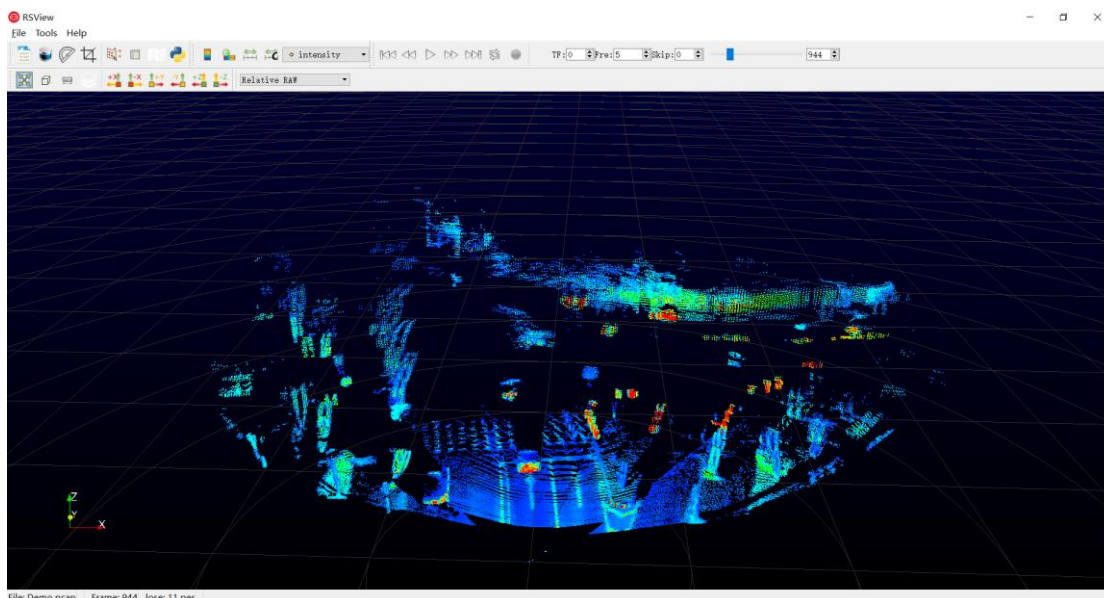

Figure A-4: RS-LiDAR-M1 Sensor Stream display
6. RSView begins displaying the colored point cloud from capturing the sensor data stream from LiDAR (as shown in Fig. A-4). The stream can be paused by pressing the **Play** button, click again, the stream continues.